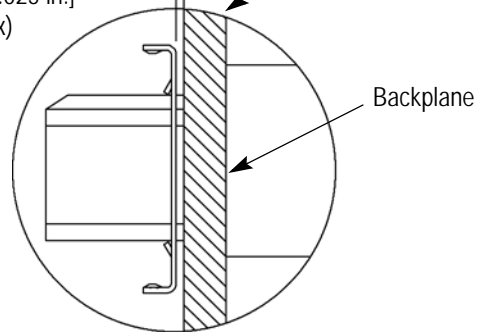

Figure 4
7. Refer to Figure 4, and inspect the assembly according to the following: